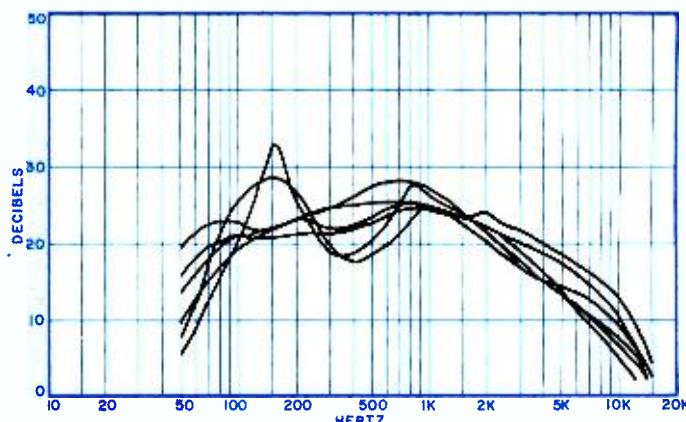

Fig. 5. One-third octave analysis of six rock recordings based on rms levels held for at least five seconds.
**Loudspeaker Signals.** In most systems the woofers are large and have large voice coils and lots of metalwork; tweeters have small coils and a much smaller mass of metal; and midrange units lie somewhere in between. Obviously, a tweeter cannot handle power as well as can a woofer. It is fortunate for the designer, therefore, that loudspeakers are designed to play music and not constant-amplitude sine-wave signals. This means that he can take advantage of music spectra, such as those given in Fig. 5, in the design of individual drive units for a system. It also means, unfortunately, that it is relatively easy to misuse the system, often without realizing it.
Misuse of a system, in a thermal damage context, means changing the spectrum of the signal applied so that too much power is applied to the most vulnerable units, the tweeters. The spectra shown in Fig. 5 are for a variety of rock-music records, which generally present the worst thermal problem for two reasons. Firstly, and most obviously, rock music is simply played louder. Secondly, its spectrum generally puts more power into the system at higher frequencies, reaching a broad maximum around 800 Hz. In contrast, classical music reaches a maximum power level somewhere around 500 Hz. Consequently, classi-